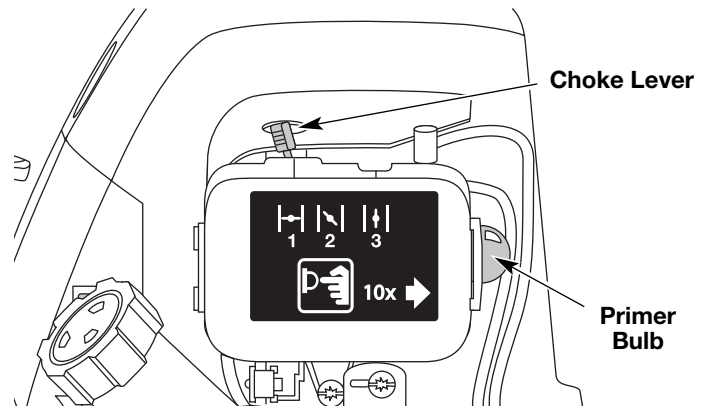

Fig. 7
4. Fully press and release the primer bulb 10 times, slowly. Some amount of **fuel should be visible in the primer bulb** and fuel lines (Fig. 7). If you can't see fuel in the bulb, press and release the bulb as many times as it takes before you can see fuel in it.
5. Place the choke lever in **Position 1** (Fig. 7).